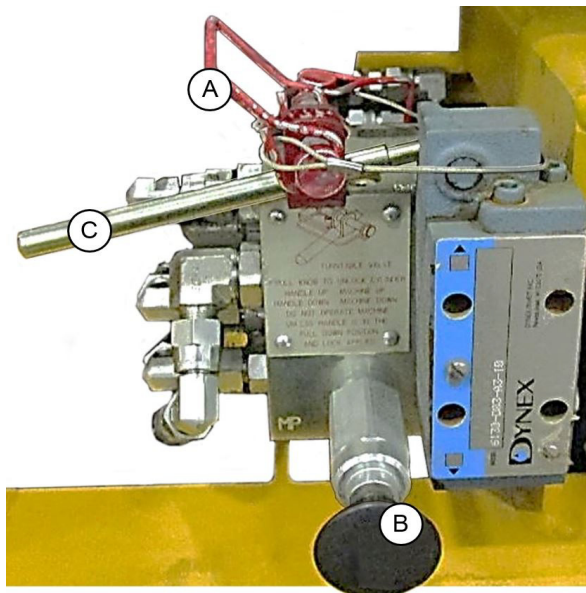

Figure 6-8: Turntable Valve Assembly
2. Locate the Turntable Valve assembly at the left-rear of the machine. See Figure 6-8.